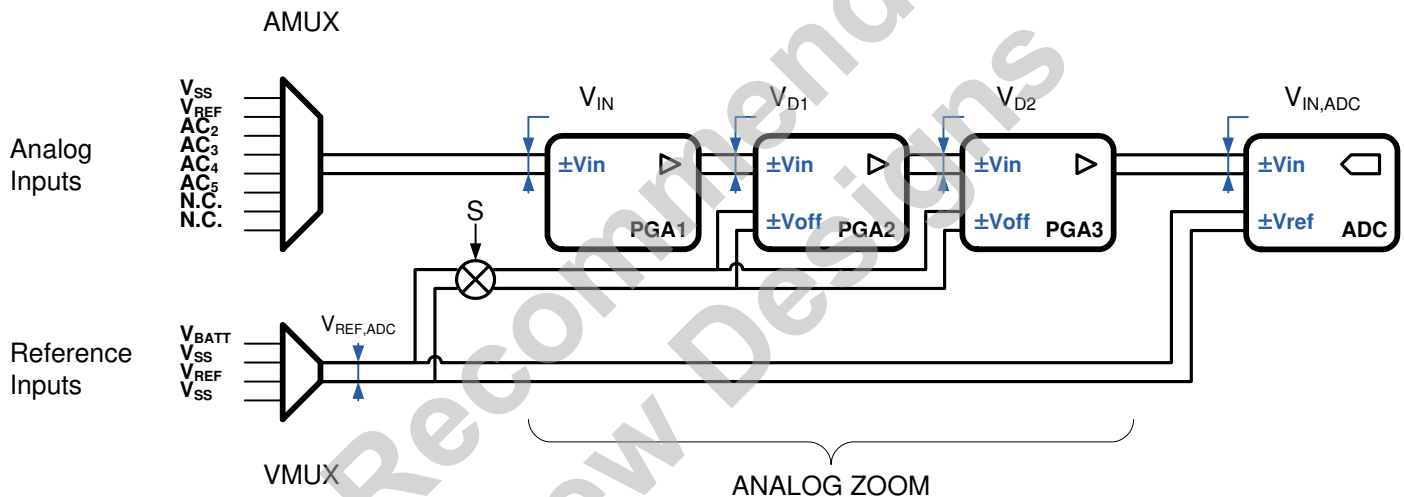

Figure 10. ZADC General Functional Block Diagram
**Figure 10, page 18** shows the general block diagram of the acquisition chain (AC). A control block (not shown in **Figure 10**) manages all communications with the I2C peripheral. The clocking is derived from the internal 4 MHz Oscillator.
As seen in Figure 10, page 18, the zooming function is implemented with three programmable gain amplifiers (*PGA*). These are: